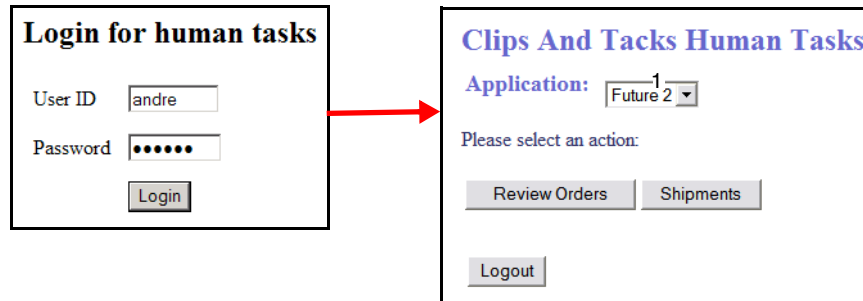

Figure 11-17 Human task application login
- ▶ You are prompted to login. Login as order manager andre/andre1 (Figure 11-17).